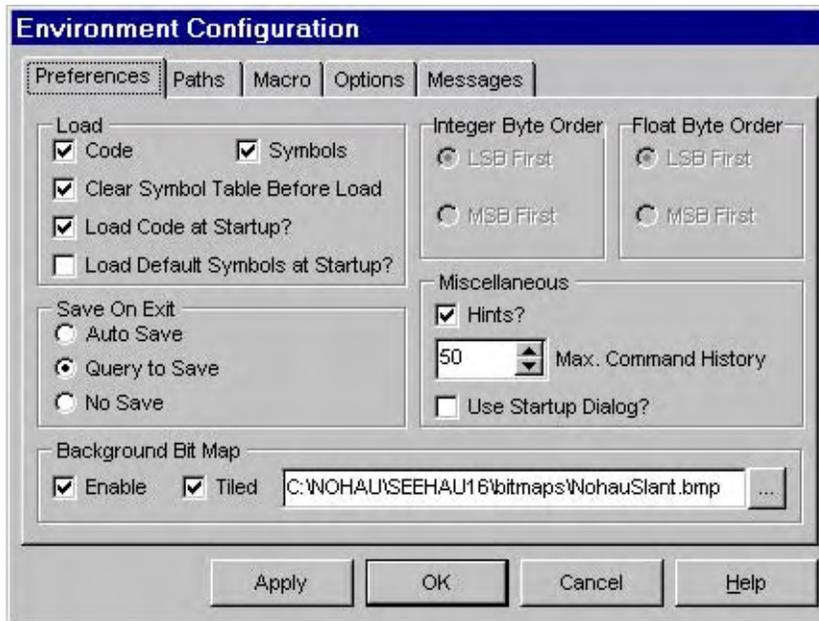

Figure 32. Environment Configuration Menu
2. From the **Environment Configuration** menu (Figure 32), check the **Use Start up Dialog?** under the **Preferences** tab. This check box will be found under the **Miscellaneous** section.